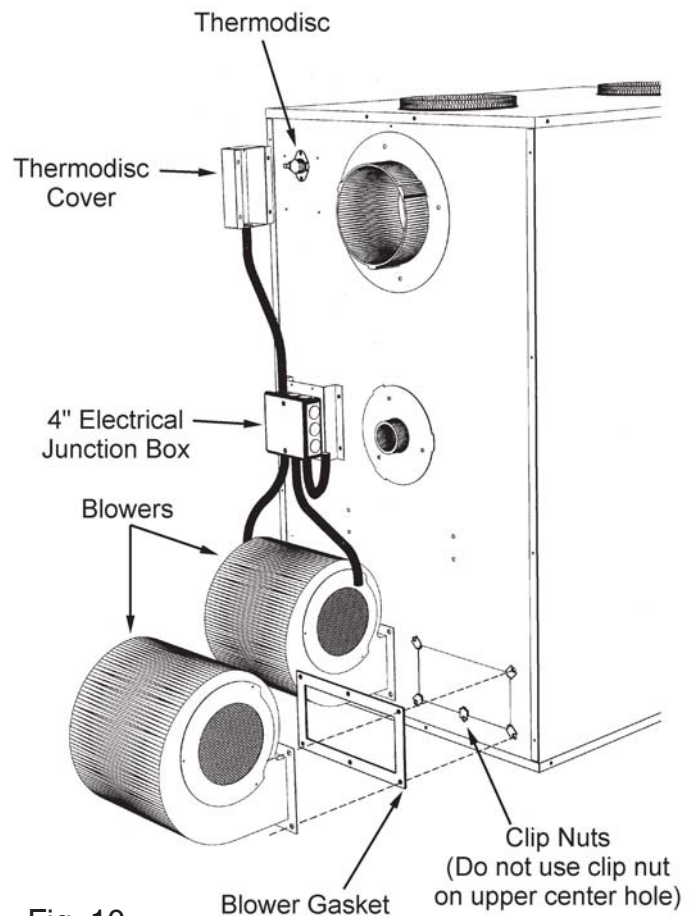

Fig. 10
5. Remove blowers from cartons. Remove junction box cover. Attach clip nuts as shown in figure 10. Install blowers and gaskets with 1/4"-20 x 3/4 bolts as shown.